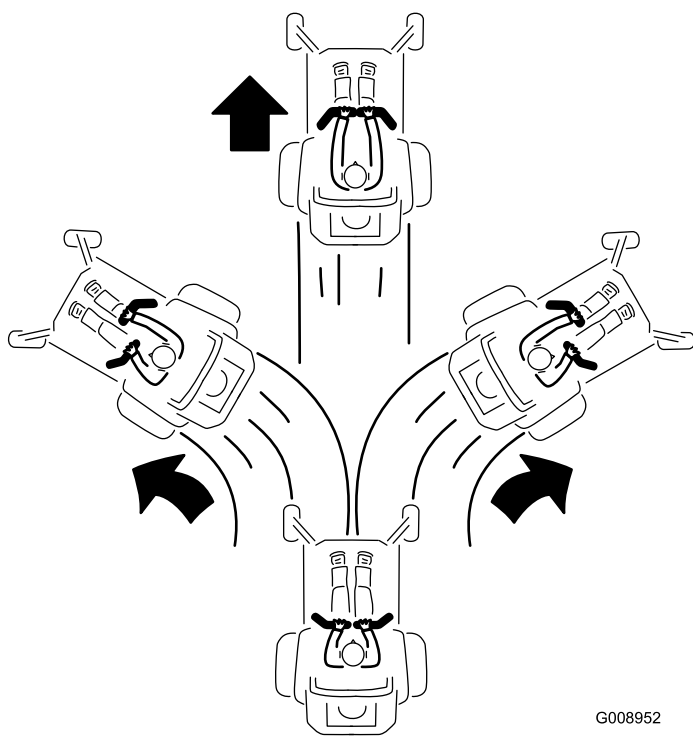

Figure 25
3. To go forward, slowly push the motion control levers forward (Figure 25).